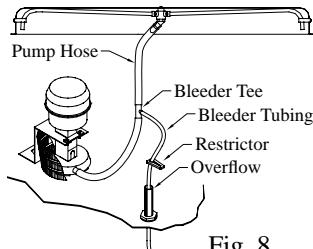

Fig. 8
- Install Bleeder Tee and Tubing.** Refer to figure 8. Cut the pump hose and insert the barbed ends of the bleeder tee into each cut end. Insert one end of the bleeder tubing onto the bleeder tee and run the other end out of the cooler through the overflow pipe.